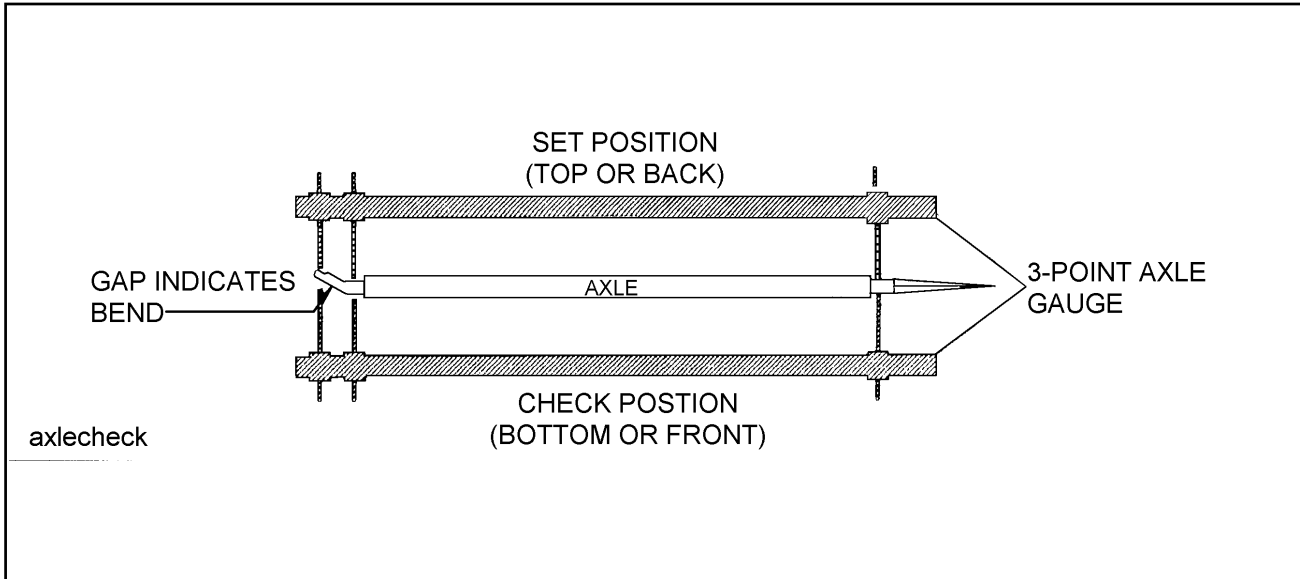

Figure 4-5 Checking Axle for Bend
- b. Place a 3-point axle gauge against the front side of the axle, and adjust each axle gauge point to the axle. (Double point end against the inner and outer wheel bearing surfaces of the spindle being checked and the other point on the inner bearing surface on the other spindle.)**(See Figure 4-5).**
- c. Move the axle gauge and place against the back side of the axle. If either of the points of double point end fails to touch the axle surface, a bent spindle is evident. A point gap of .015" or more is considered excessive tire “toe” and the axle must be replaced **(See Figure 4-5).**